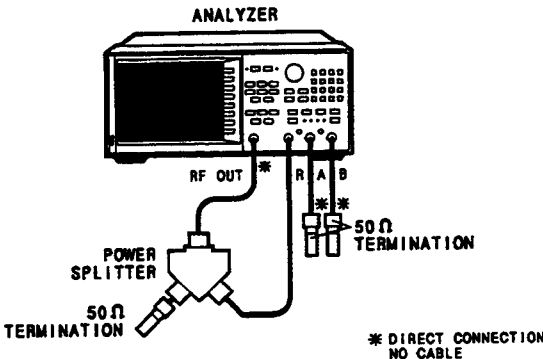

Figure 4. R-into-A and R-into-B Input Crosstalk Test Setup
1. Connect the equipment as shown in Figure 4 and press **[PRESET] [SCALE REF] [2] [5] [x1] [MENU] [POWER] [6] [x1] [AVG] [AVERAGING FACTOR] [5] [x1] [AVERAGING ON] [IF BW] [1] [0] [x1]** to set up the instrument. Disregard the "SWEEP TIME INCREASED" message on the CRT.